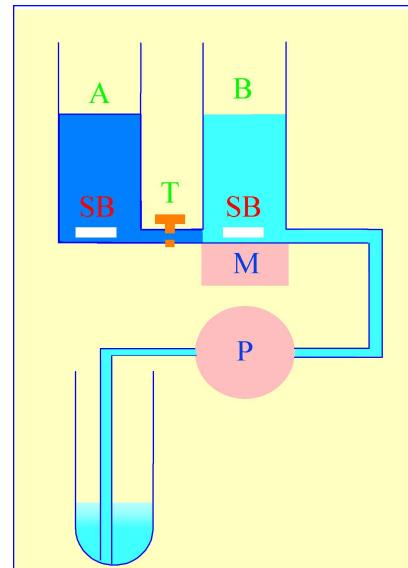

Figure 3: Two-chamber gradient maker (for details see text)
The traditional way of constructing a continuous gradient is to use a standard two-chamber gradient maker (Figure 3). It consists of two identical chambers connected close to their bases by a tapped channel (T). One of the chambers (the mixing chamber – B in Figure 3) has an outlet directly opposite the inlet from the tapped channel.
1. Set up the device with the mixing chamber (B) resting on a magnetic stirrer (M) and the outlet tube leading via a peristaltic pump (P) to the bottom of the centrifuge tube.
2. Place the chosen high-density solution in the non-mixing chamber (A) and then momentarily open the tap (T) to allow dense liquid to fill the connecting tube.
3. Pour an equal volume of the low-density solution in the mixing chamber (B).
4. Place two identical stirring bars (SB) in the two chambers (this ensures that the height of the two solutions is the same).
5. In rapid sequence, switch on the pump (P) and the magnetic stirrer (M) and then open the connecting tap (T). As the levels in the two chambers fall synchronously, reduce the speed of the stirrer to avoid generating air bubbles that may enter the gradient and disturb it.
- ◆ The gradient can alternatively be produced high density end-first, in which case the location of the two solutions needs to be reversed and the delivery tube to the centrifuge tube must be placed against the wall of the centrifuge tube near to its top, so the gradient flows down the tube smoothly. This is can pose some problems of mixing in the centrifuge tube if the flow down the tube wall is in the form of large drops rather than a continuous stream (this may be minimized by tilting the tube), on the other hand the tendency of the low density medium to float to the surface of the high density medium in the mixing chamber (B) aids mixing. The Labconco Auto Densi-Flow gradient unloader can be used to deposit a gradient high-density end first. Although this device is no longer commercially available, it will be found in many laboratories and often appears in laboratory equipment websites.
Convex and concave gradients cannot be produced with the standard two-chamber gradient mixer (see Figure 3). However if the non-mixing chamber is made twice the diameter of the mixing chamber, then with low-density solution in the mixing chamber a convex gradient is produced; if the locations of the low density and high-density solutions are reversed, a concave gradient is produced.